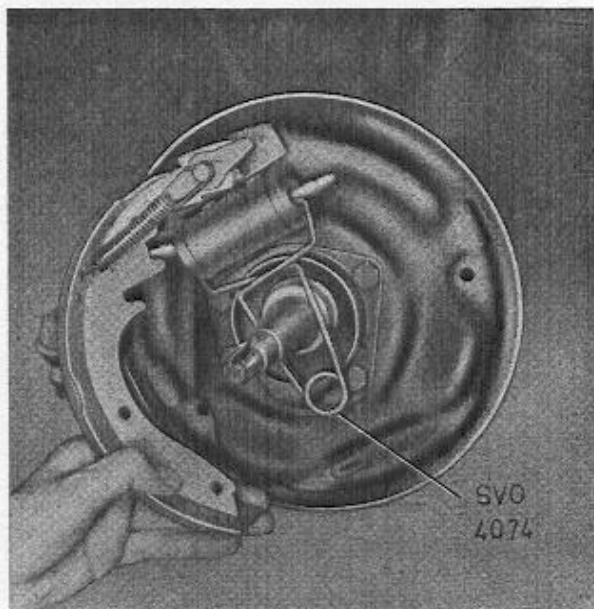

Fig. 36. Fitting brake shoe.
2. Hold the front shoe in place so that the return spring can be hooked on. Turn the shoe outwards so that the wheel unit cylinder push rod can be placed in position, see Fig. 36. Fit the guide pin (8) and clip (7).